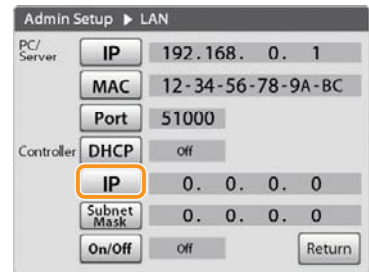

Figure 3-106
1. Tap [IP] of [Controller]. (Figure 3-106)